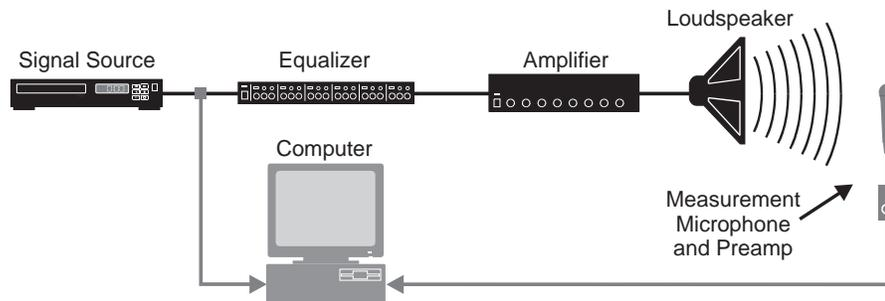

Figure 1: Typical Test Setup for Delay Locator Measurements
The Delay Locator calculates the impulse response mathematically using two input signals from a *continuous* signal source. The mathematical technique used assumes that each of the two computer sound card inputs is receiving the same signal but that the two signals are traversing different signal paths as in *Figure 1* below.
- ▶ Start with the Real-Time module in the 2-Channel (conventional real-time analyzer) mode. Ensure that the *Reference* (source) signal is on input channel #1 (represented by the light blue trace in the default display color scheme), and that the *Measurement* signal — the system output as returned by the microphone in Figure 1 above — is on input channel #0 (represented by the light green trace in the default color scheme).